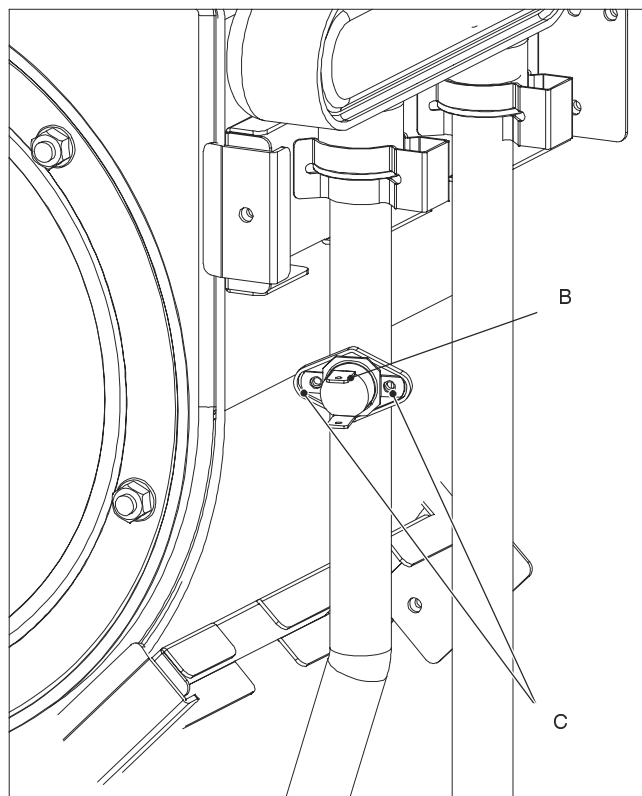

Fig. 19.2
- 2 Disconnect the wiring *B* (detail in Fig. 19.2).